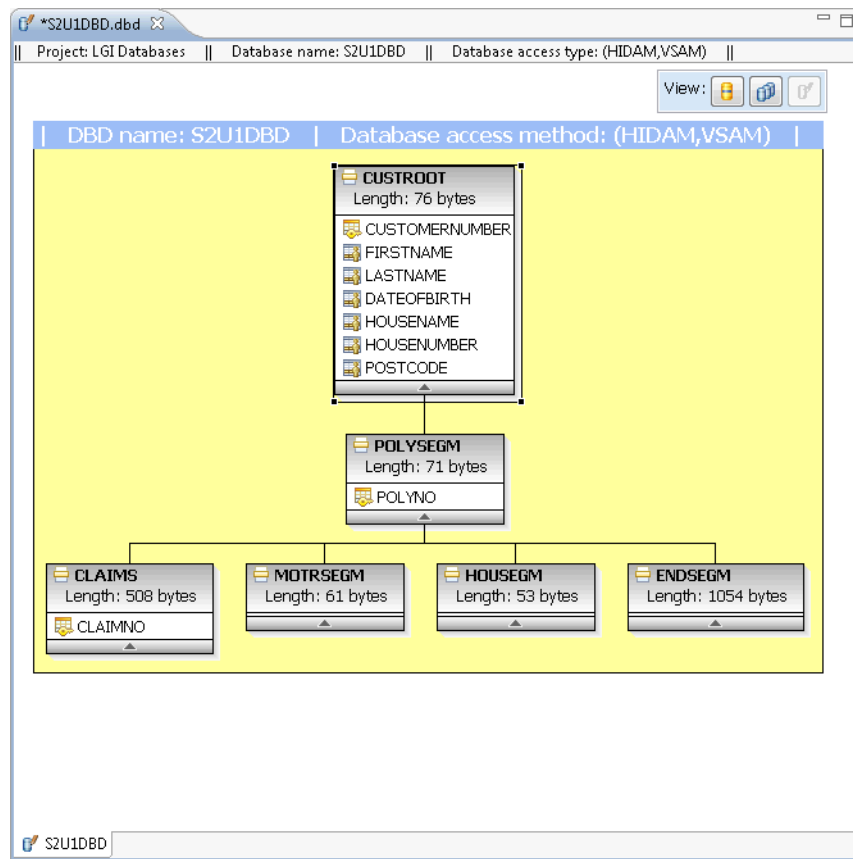

Figure 8-35 IMS Explorer database view with imported metadata for one segment
4. Click **Finish** to import this segment layout into the database definition for the CUSTROOT segment. Figure 8-35 shows the expanded definition for this segment in the database.